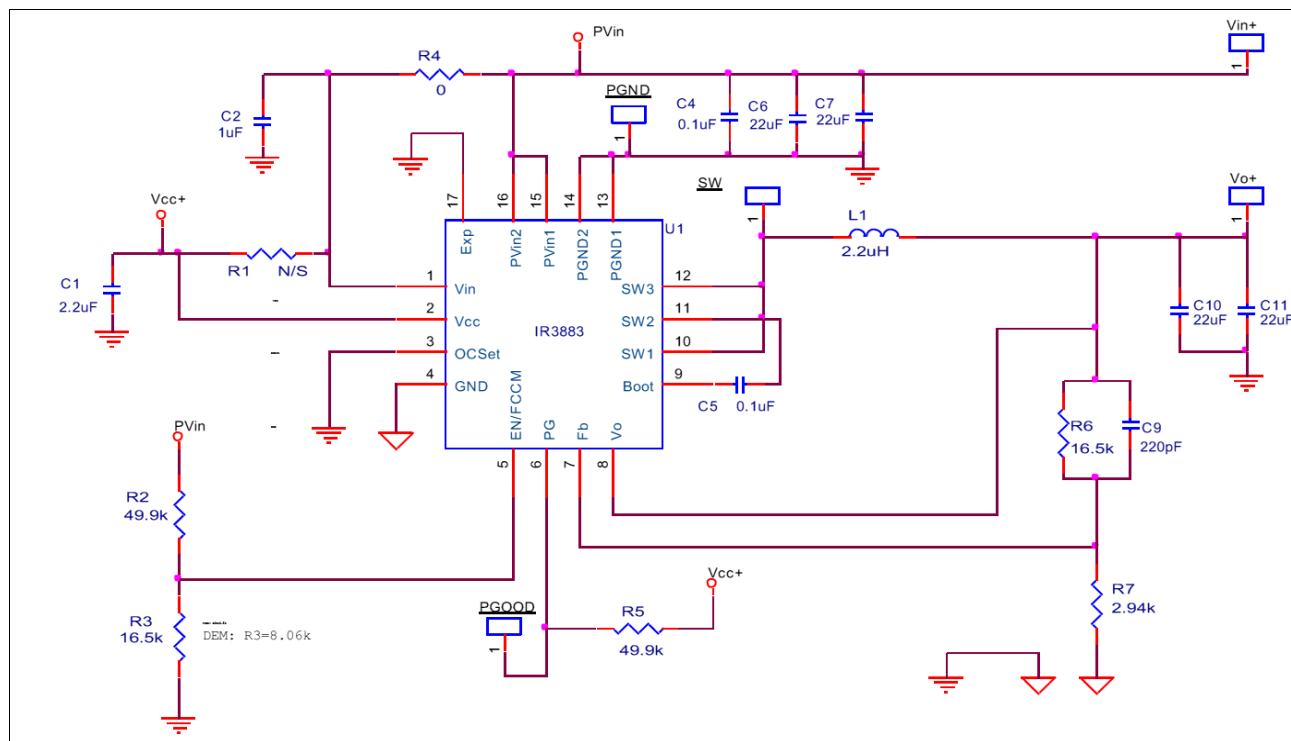

Figure 7-1 Application Circuit for a 12V to 3.3V, 3A Point of Load Converter
2. R_{FB1} and R_{FB2} are the top and bottom feedback resistor respectively, shown as R6 and R7 respectively in Figure 7-1.